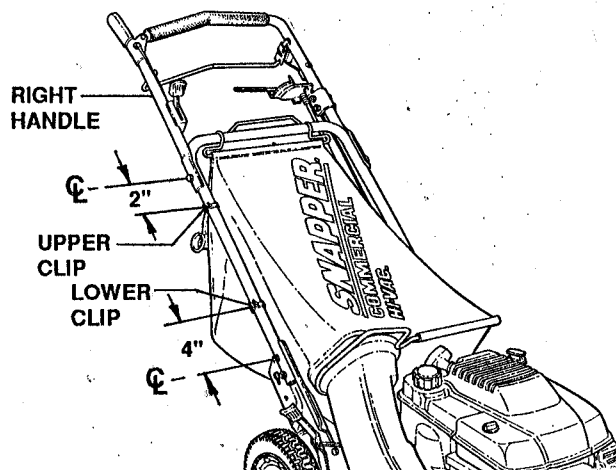

FIGURE 3.9
- D. If the wheel drive control fails to return quickly to the "OFF" position when released, check for binding at the cable holdings located on the side of the right handle. The upper clip should be located 2" below the center of the upper knob; the lower clip should be 4" above the center of the lower knob. The cable should slide freely with the clips installed at these locations. See Figure 3.9.